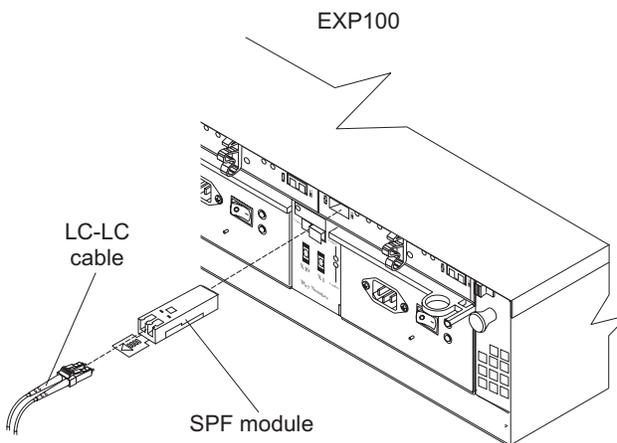

Figure 40. Installing an SFP module and connecting an LC-LC cable to the EXP100
3. Insert an SFP module into the SFP port located on the back of the EXP100; then, connect the other end of the LC-LC cable to the SFP module, as shown in Figure 40 on page 56.